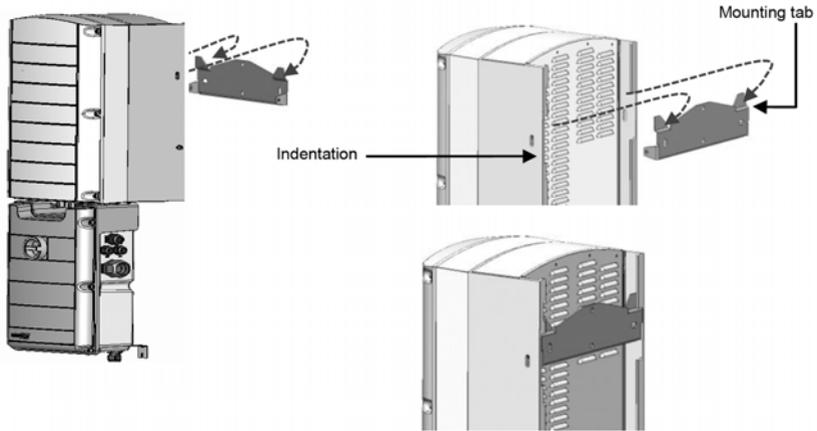

Figure 20: Hanging units
- b. Align the two indentations in the enclosure with the two triangular mounting tabs of the bracket, and lower the unit until it rests on the bracket evenly (see *Figure 20*).
- Align the two indentations in the enclosure with the two triangular mounting tabs of the bracket, and lower the unit until it rests on the bracket evenly (see *Figure 20*).